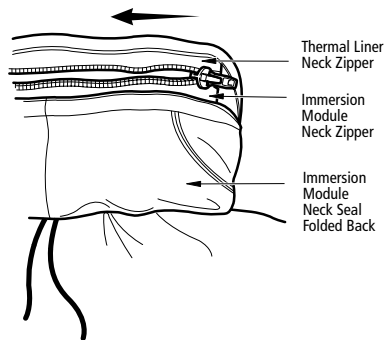

FIGURE 9
- b) Line up the end of the zipper on the immersion module with the end of the zipper on the thermal liner (see fig. 9).